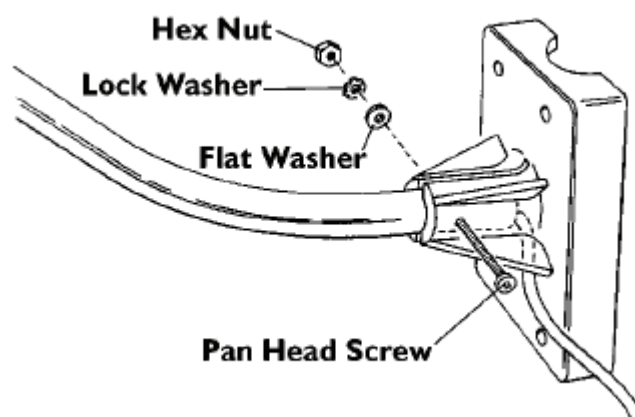

Figure 15: Attaching the anemometer arm to the base
- B. Attempt to push the #4-40 x 1 1/4" pan head screw through the holes in the arm and the base (see Figure 15).
- B. Insert the pan head screw into one of the holes in the base and slide it through the arm. Secure the pan head screw using the flat washer, lock washer, and hex nut as shown in Figure 15